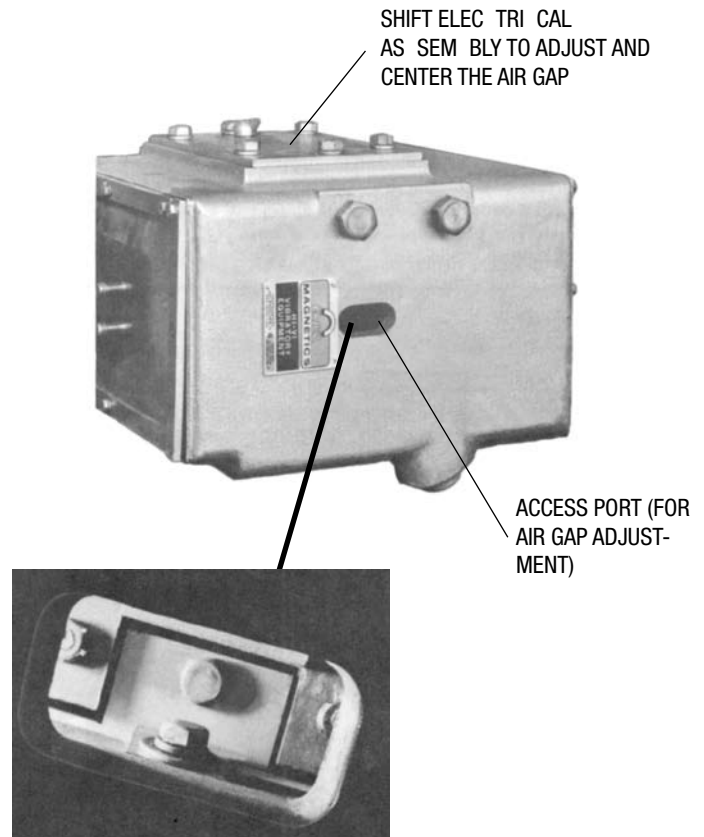

FIGURE 8
Start the electrical assembly plate bolts into the body casting, but do not tighten completely. Remove the nameplate from the side of the body casting to gain access to the air gap. (See Figure 8).
5. Working through the opening in the side of the body casting (see Figure 8) and using a non-magnetic feeler gauge approximately .066" (1.7 mm) thick (furnished with each unit), check the air gaps between the E-Frame legs and the armature pole pieces. These gaps should be uniform in width, parallel, and as nearly alike as possible; if they are not, they should be adjusted by shifting the electrical assembly plate.